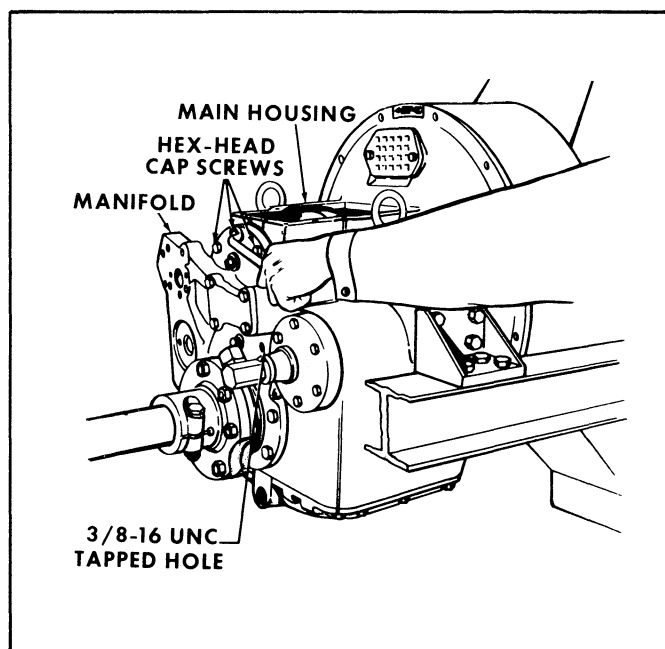

Figure 23. Removing the Manifold.
(6) Reach down through the top cover plate opening in the main housing, and firmly grasp the oil return pipe assembly. Carefully, push the oil return pipe assembly rearward through the manifold, and remove the oil return pipe and the corprene ring gasket from the manifold. Discard the gasket.
(7) Remove the 11 hex-head capscrews that secure the manifold (fig. 23) to the main housing. Install two pusher screws in the 3/8-16 UNC tapped holes in the manifold. Remove the manifold, with attached parts, and the main housing-to-manifold gasket from the main housing. Discard the gasket. Remove the two piston rings from the manifold. Discard the piston rings.